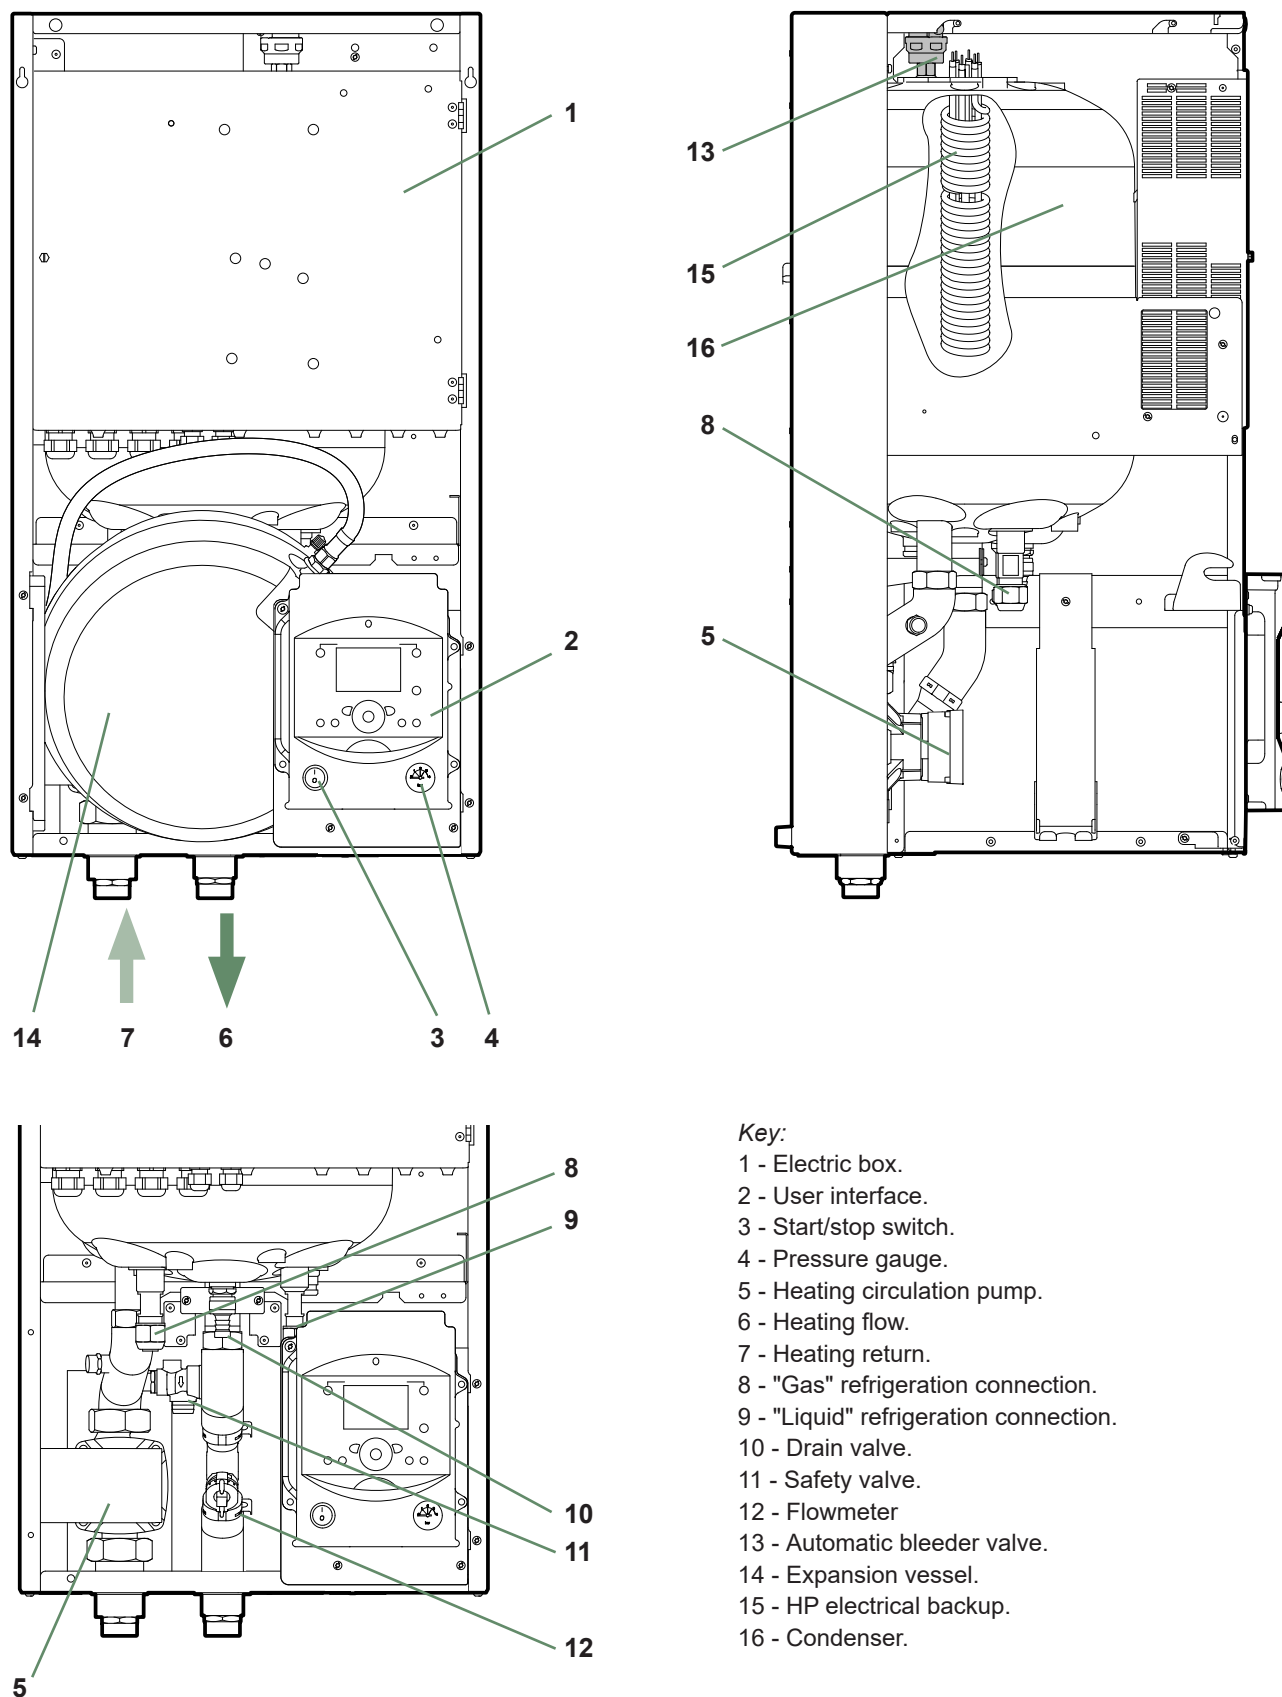

fig. 9 - Hydraulic unit components
- In the condenser (ref. **14**, fig. 9, page 13): The energy of the refrigerant is transmitted to the heating circuit. The refrigerant returns to its liquid state.